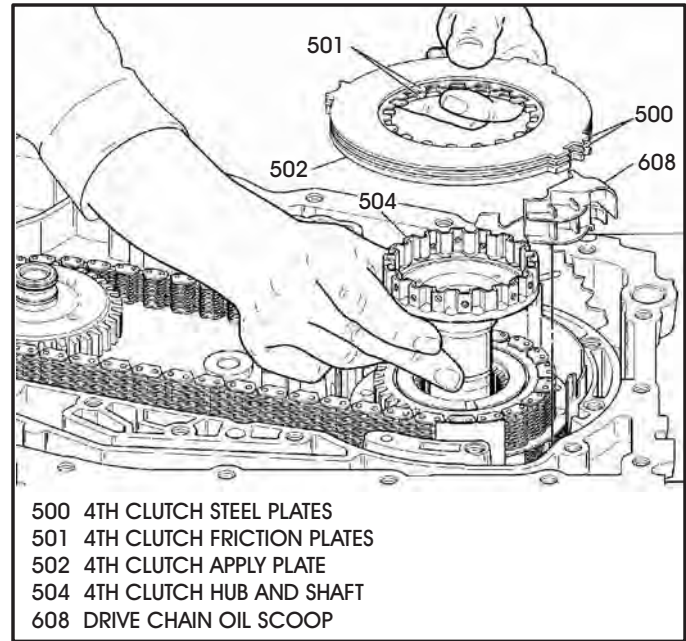

Figure 62
37. Remove the 4th clutch plates and apply plate, as shown in Figure 62.
38. Remove the 4th clutch hub and shaft assembly, as shown in Figure 62.
39. Remove the drive chain oil scoop, as shown in Figure 62.